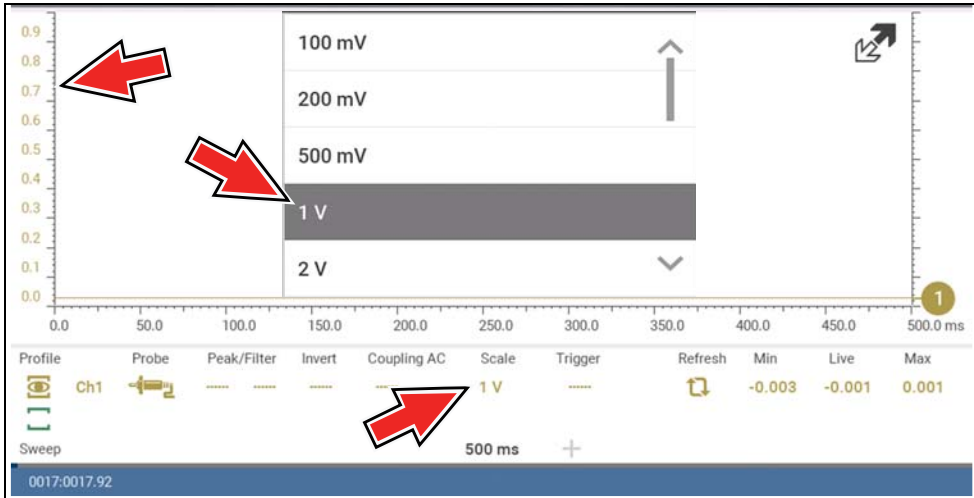

Figure 9-32
**Example (Figure 9-32):** If the vertical scale is set to 1V, the value displayed is 1V.